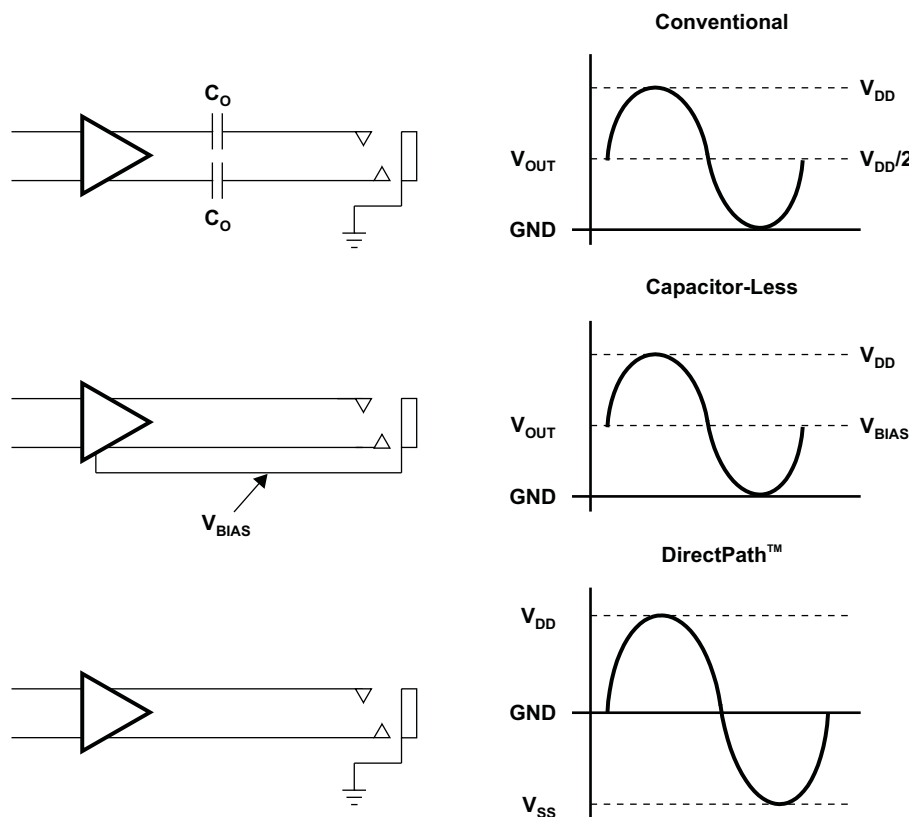

Figure 36. Amplifier Applications
The headphone amplifier has a fixed gain of -1.5 V/V. It uses single-ended (SE) inputs. The DirectPath™ amplifier architecture operates from a single supply but makes use of an internal charge pump to provide a negative voltage rail. Combining the user-provided positive rail and the negative rail generated by the IC, the device operates in what is effectively a split supply mode. The output voltages are now centered at zero volts with the capability to swing to the positive rail or negative rail. The DirectPath™ amplifier requires no output dc blocking capacitors and does not place any voltage on the sleeve. The block diagram and waveform of Figure 36 illustrate the ground-referenced headphone architecture. This is the architecture of the TPA6040A4.
Single-supply headphone amplifiers typically require dc-blocking capacitors. The capacitors are required because most headphone amplifiers have a dc bias on the outputs pin. If the dc bias is not removed, the output signal is severely clipped, and large amounts of dc current rush through the headphones, potentially damaging them. The left-side drawing in Figure 36 illustrates the conventional headphone amplifier connection to the headphone jack and output signal.
is connected to the headphone jack shield pin. This is the voltage on which the audio output signals are centered. This voltage reference is half of the amplifier power supply to allow symmetrical swing of the output voltages. Do not connect the shield to any GND reference, or large currents will result. The scenario can happen if, for example, an accessory other than a floating GND headphone is plugged into the headphone connector. See the second block diagram and waveform in Figure 36.